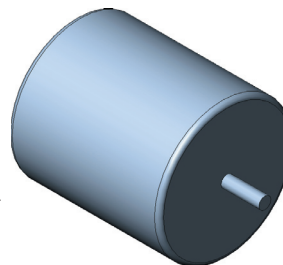
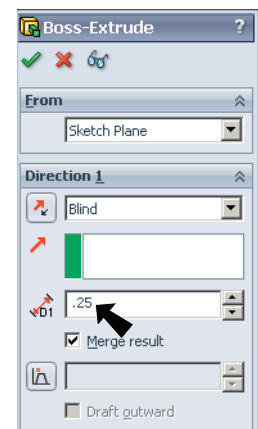

Fig. 10
Fig. 9
- Step 10. Set **Depth**  to **.25** in the Extrude Property Manager and click OK , **Fig. 9** and **Fig. 10**.